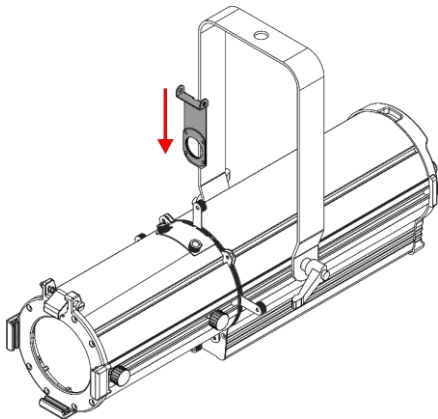

Fig. 19
- 04) Change the gobo in the **gobo holder (12)**. See **Changing the Gobo** on page 18 for more information.
- 05) Insert the **gobo holder (12)** back into the gobo slot (see Fig. 19).